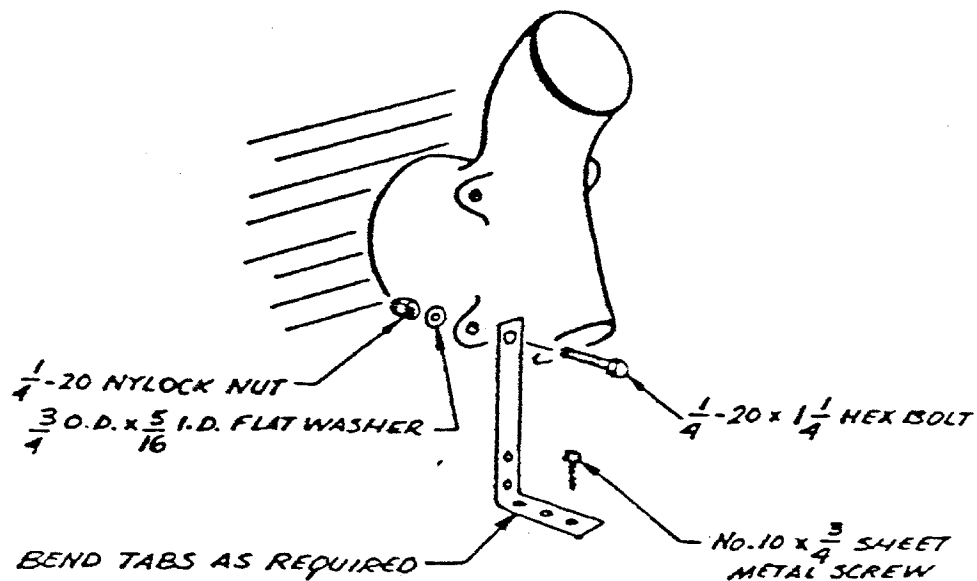

FIG. 5
4. Disconnect the plastic factory air inlet duct at the air inlet hood. Remove the air inlet hood from the mounting bracket by twisting it until the four tabs line up with the slots in the bracket. See fig. 5.